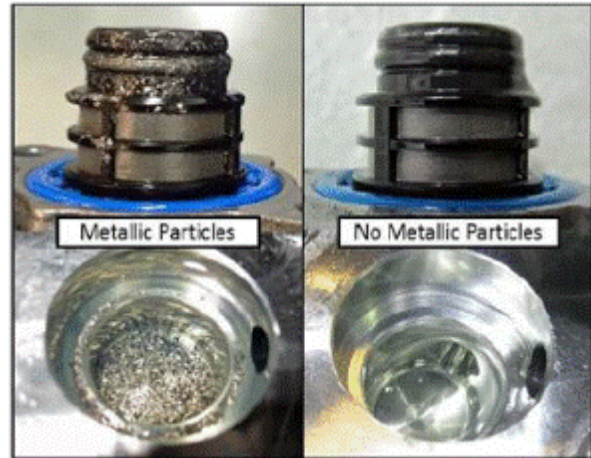

Figure 2. N290 fuel metering valve and valve bore shown with and without metallic particles.
2. Remove the N290 fuel metering valve, and inspect both the valve and valve bore for metallic particles (Figure 2).